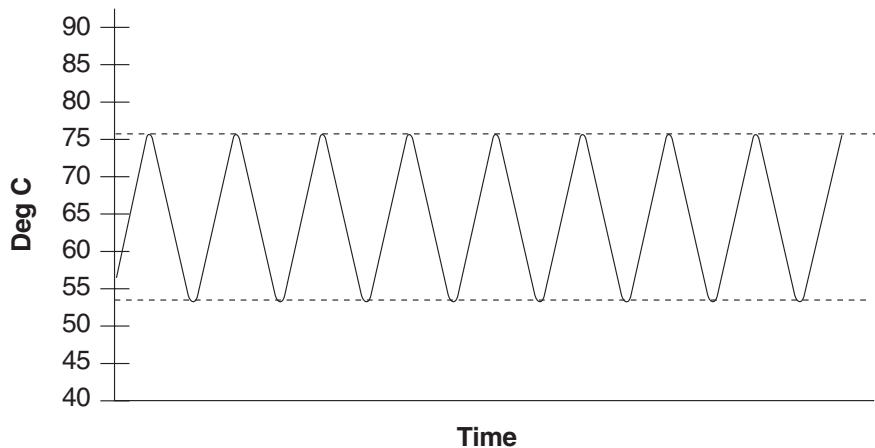

Figure 6 Switch Test Data
12. Collect data on a computer connected to the RS-232 port. Refer to Section 9 for instructions on configuring the RS-232 communications interface. The data may appear as shown in Figure 6. The maxima and minima are the switch temperatures.